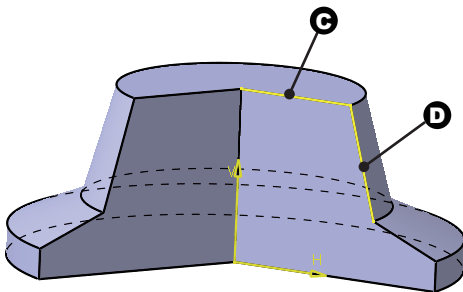

Fig 6-26 Project
2. Use the **Project 3D Elements** command in the **Operation** toolbar to project the curves **C** and **D** shown in Fig 6-26 on the sketch plane.
5. Convert the projected curve **C** and **D** shown in Fig 6-26 as the construction elements.